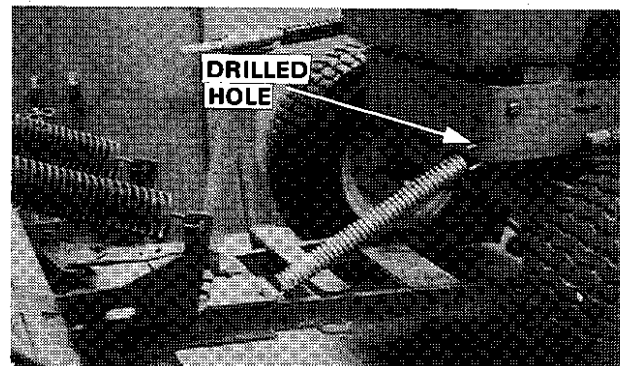

Figure 6. Spring Installation (Group 4 Tractor Shown)
- Drill a **.406** hole in the front of frame **1-1/4"** in from the front left side and **1/2"** up from the bottom of the frame. Refer to **figure 6**.